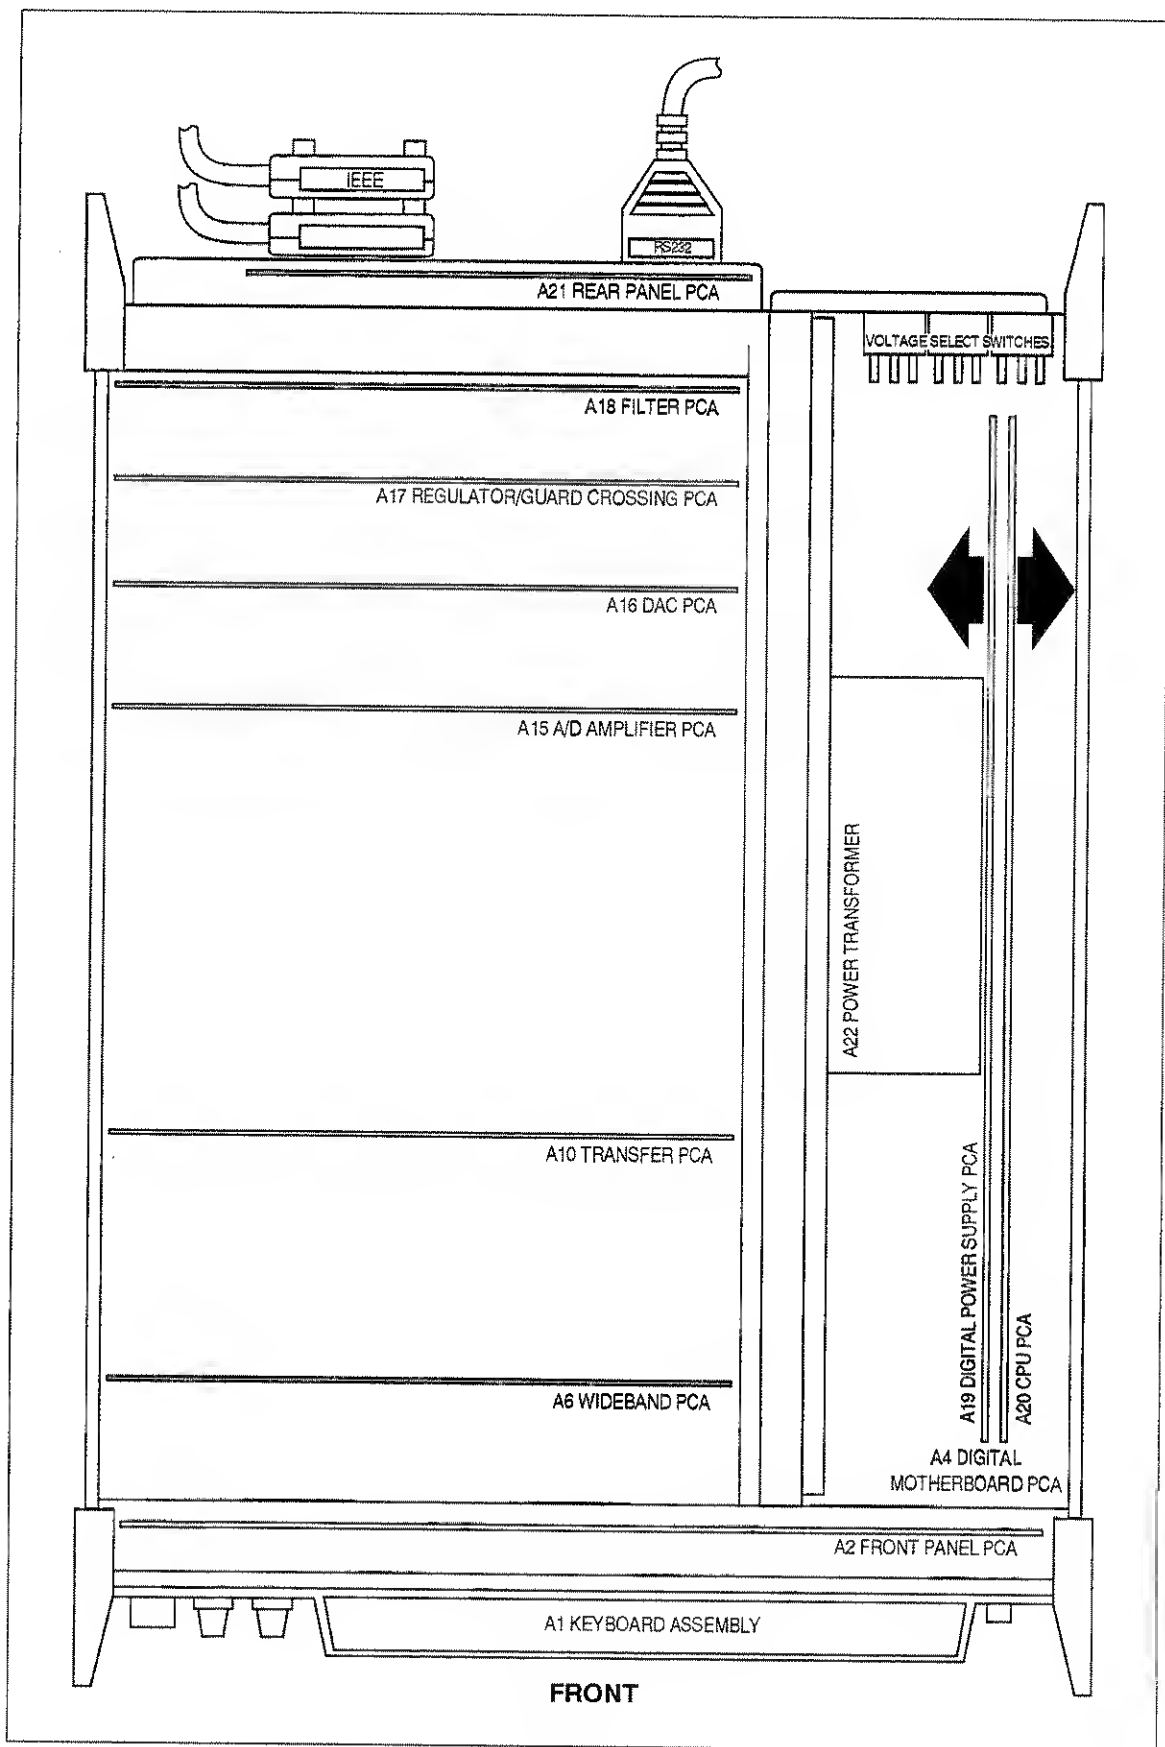

Figure 4-5. Analog and Digital Assemblies
The analog assemblies are installed in the sequence shown in Figure 4-5. Note that each module cannot be positioned in any other slot and that identifying information on the tab for each module faces forward. In all cases, the component side of each module also faces toward the front panel.
Remove the CPU Assembly or the Digital Power Supply Assembly by pulling straight up at the top corners of the assembly. In relation to the chassis side, the CPU Assembly components face toward, and the Digital Power Supply Assembly components face away. See Figure 4-5.
2. Referring to Figure 4-5, locate the slot for the A6 Wideband Module.